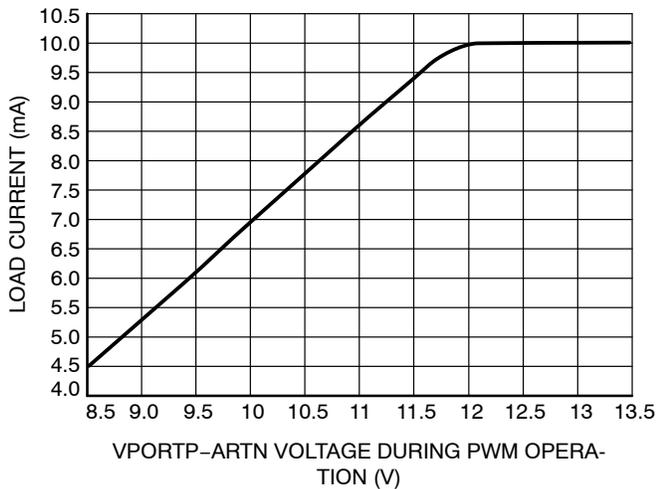

Figure 6. (Ivddl_load)max with Auxiliary Supply Operation
- See Figures 6 and 7 for specifications on the load current at lower or higher VPORTP-ARTN voltages. In case the application requires more current capability on VDDL and VDDH, it is recommended to externally supply the VDDH pin with a bias winding from the transformer or to add a diode between VAUX(+) and VDDH pin (verify the VAUX voltage does not exceed the VDDH voltage range).